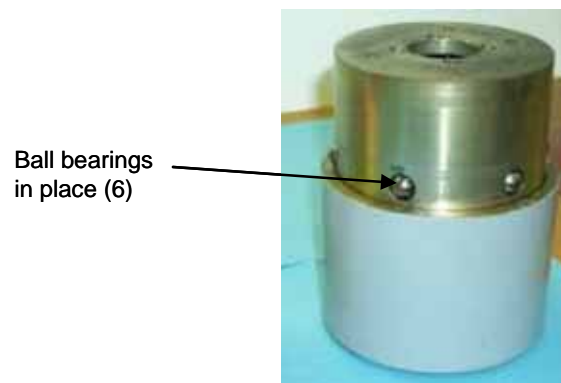

Figure 70. Ball bearings in place on the inner body.
2. Put ball bearings in position by placing the outer shell top down on the workbench and turn the inner body top up. Place the six ball bearings in the correct locations, making sure to grease each bearing with a liberal amount of light all-purpose grease. Lower the inner shell into the outer catch shell (figures 70 and 71).